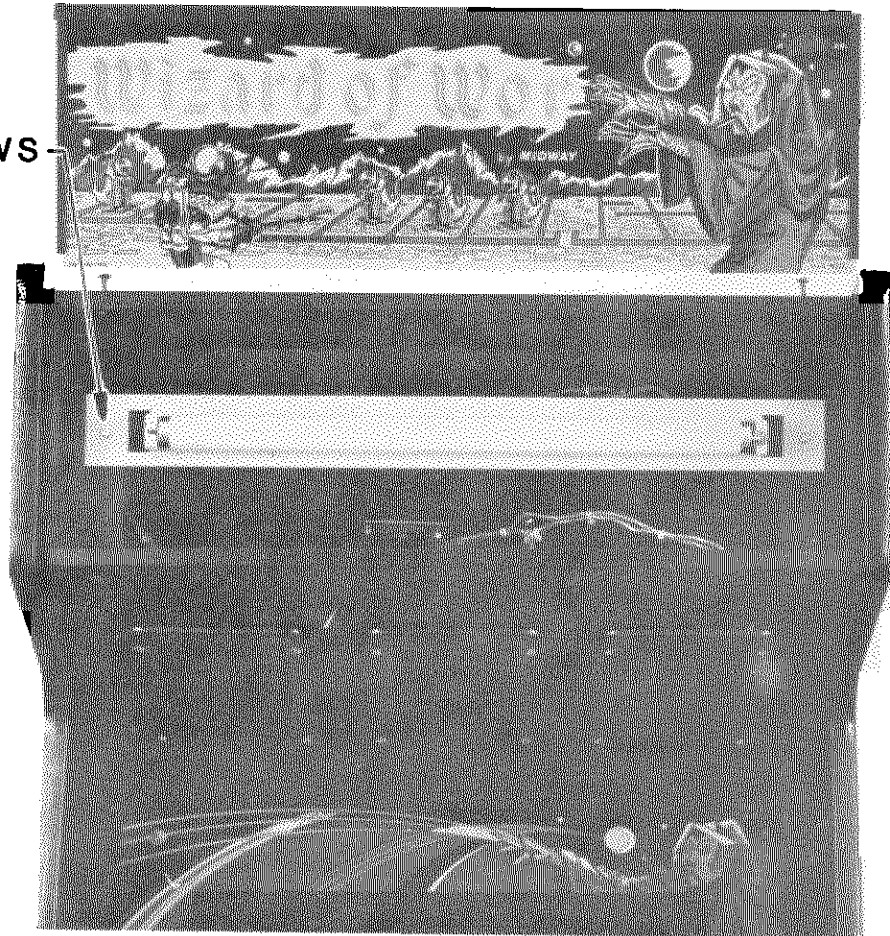

FIG.31
- g. Replacing the speaker(s) — See Figure 31:
- ii. Completely disconnect the speakers from their cabling. See Figure 31